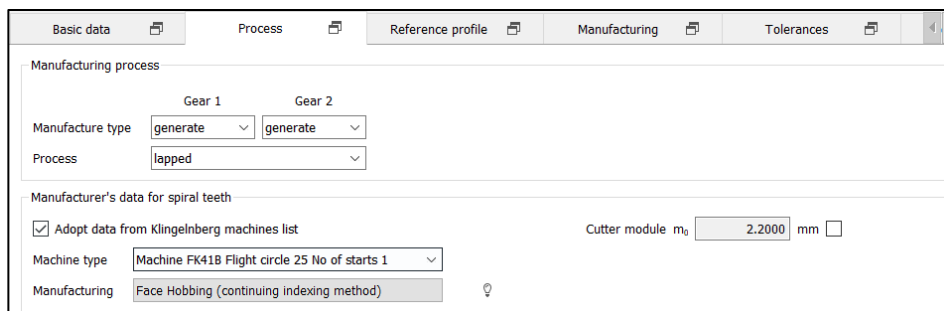

Figure 25. Selecting the cutter tip from the list of Klingelnberg machines
8. Under «**Process**», select «**Face hobbing (continuing indexing method)**» as the manufacturing process, and enter the «Cutter radius» and the «Number of tools blade groups». We recommend you use the sizing function  to the right of the «Cutter radius» input field to get a suggested value for the minimum cutter tip size (in accordance with Klingelnberg «Bevel gears», page 70) and then enter the cutter tip radius that was actually used, from Production. As an alternative, you can transfer the cutter tip from the «**List of Klingelnberg machines**» if the checkbox is active (see Figure 25).